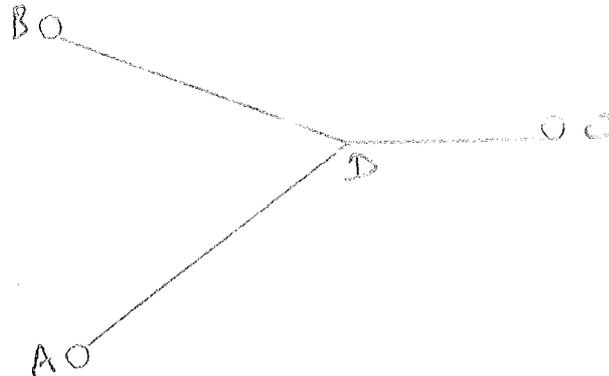

Fig. Q. 14 (b)
- (b) Determine the forces in the members of the space frame plan view is shown in Fig. Q. 14 (b) by tension coefficient method. The coordinates are A (0, 0, 0), B (0, 6, 0), C (9, 3, 0), D (6, 3, 5). A, B, C are hinged supports at same level. A vertical load of 100 kN is applied at D.